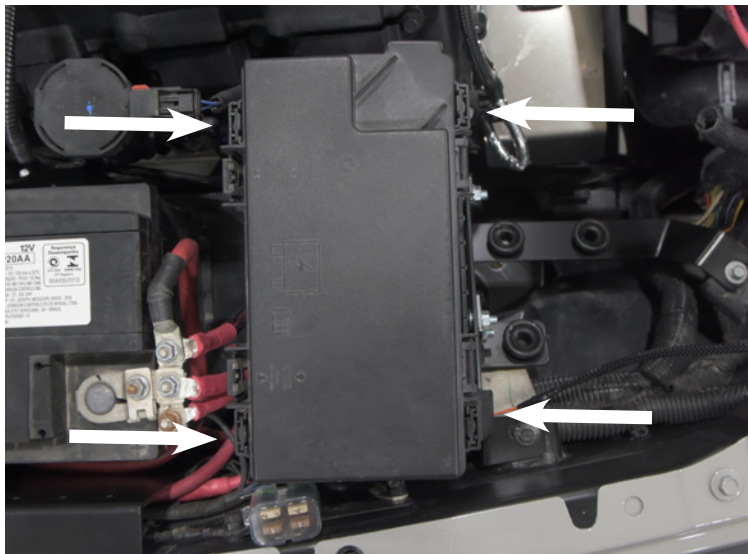

Figure 4
7. Remove the TIPM from its mounting bracket by lifting the four tabs (Fig. 4).